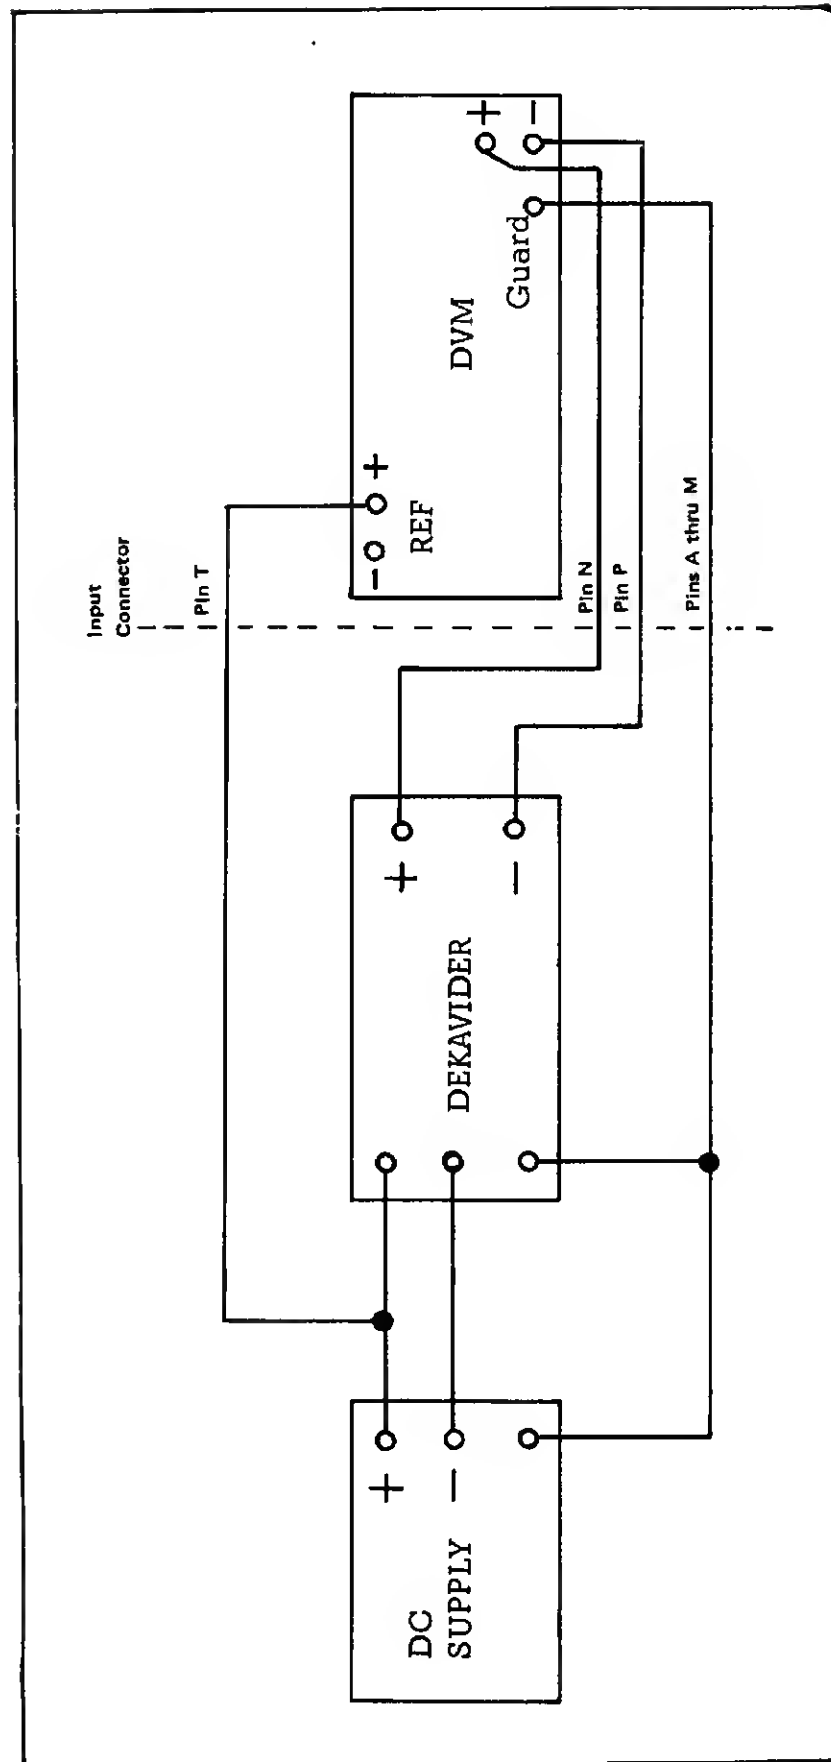

Figure 5.8. Ratio Test Setup
- (b) Connect the DVM as shown in Figure 5.8 with +10 volts power supply voltage and the voltage divider set to 0.999900.
- (b) Connect the DVM as shown in Figure 5.8 with the power supply set at a precise +10 volts. Set the Voltage Divider to 0.999900.